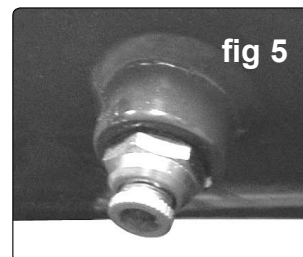

fig 5
- 5.3. Ensure that the tank drain valve is closed. (See fig.5)
- 5.14. The tank must now be drained. This will release the air left in the tank and drain away condensation that may have formed within the tank. Choose a suitable location for this operation and/or make provision to collect the condensation. **Wear ear and eye protection.** Open the tank drain valve (See fig.5) slowly allowing air and moisture to bleed from the tank. After bleeding close the drain valve to prevent debris building up in the valve.
- a) Drain condensation by opening the valve located under the tank. Place a container under the valve and open the valve by turning anti-clockwise. See fig.5.